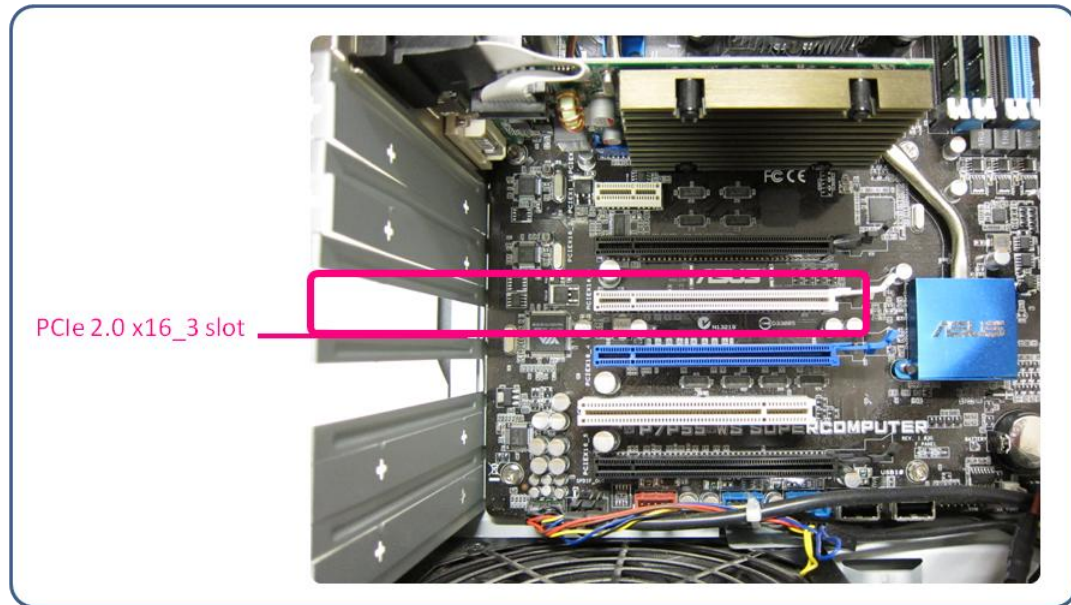

Figure 10: PCIe slot for extender
- 1) Make sure that the computer is switched off and plug the PCIe extender board into the computer slot indicated in Figure 10. Use the provided spacers and screws to mount the extender to the computer box.